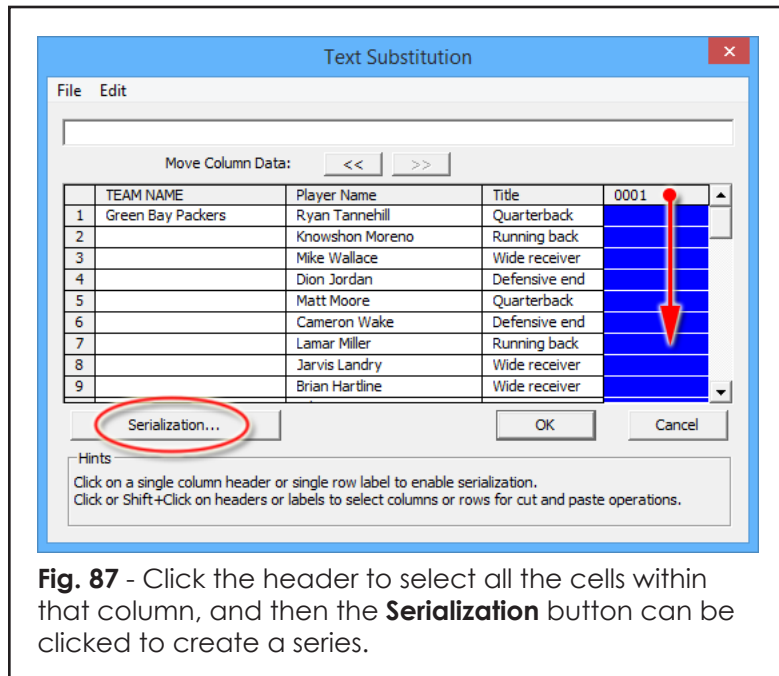

Fig. 87 - Click the header to select all the cells within that column, and then the **Serialization** button can be clicked to create a series.
5. The **Text Substitution** dialog will open (Fig. 87).